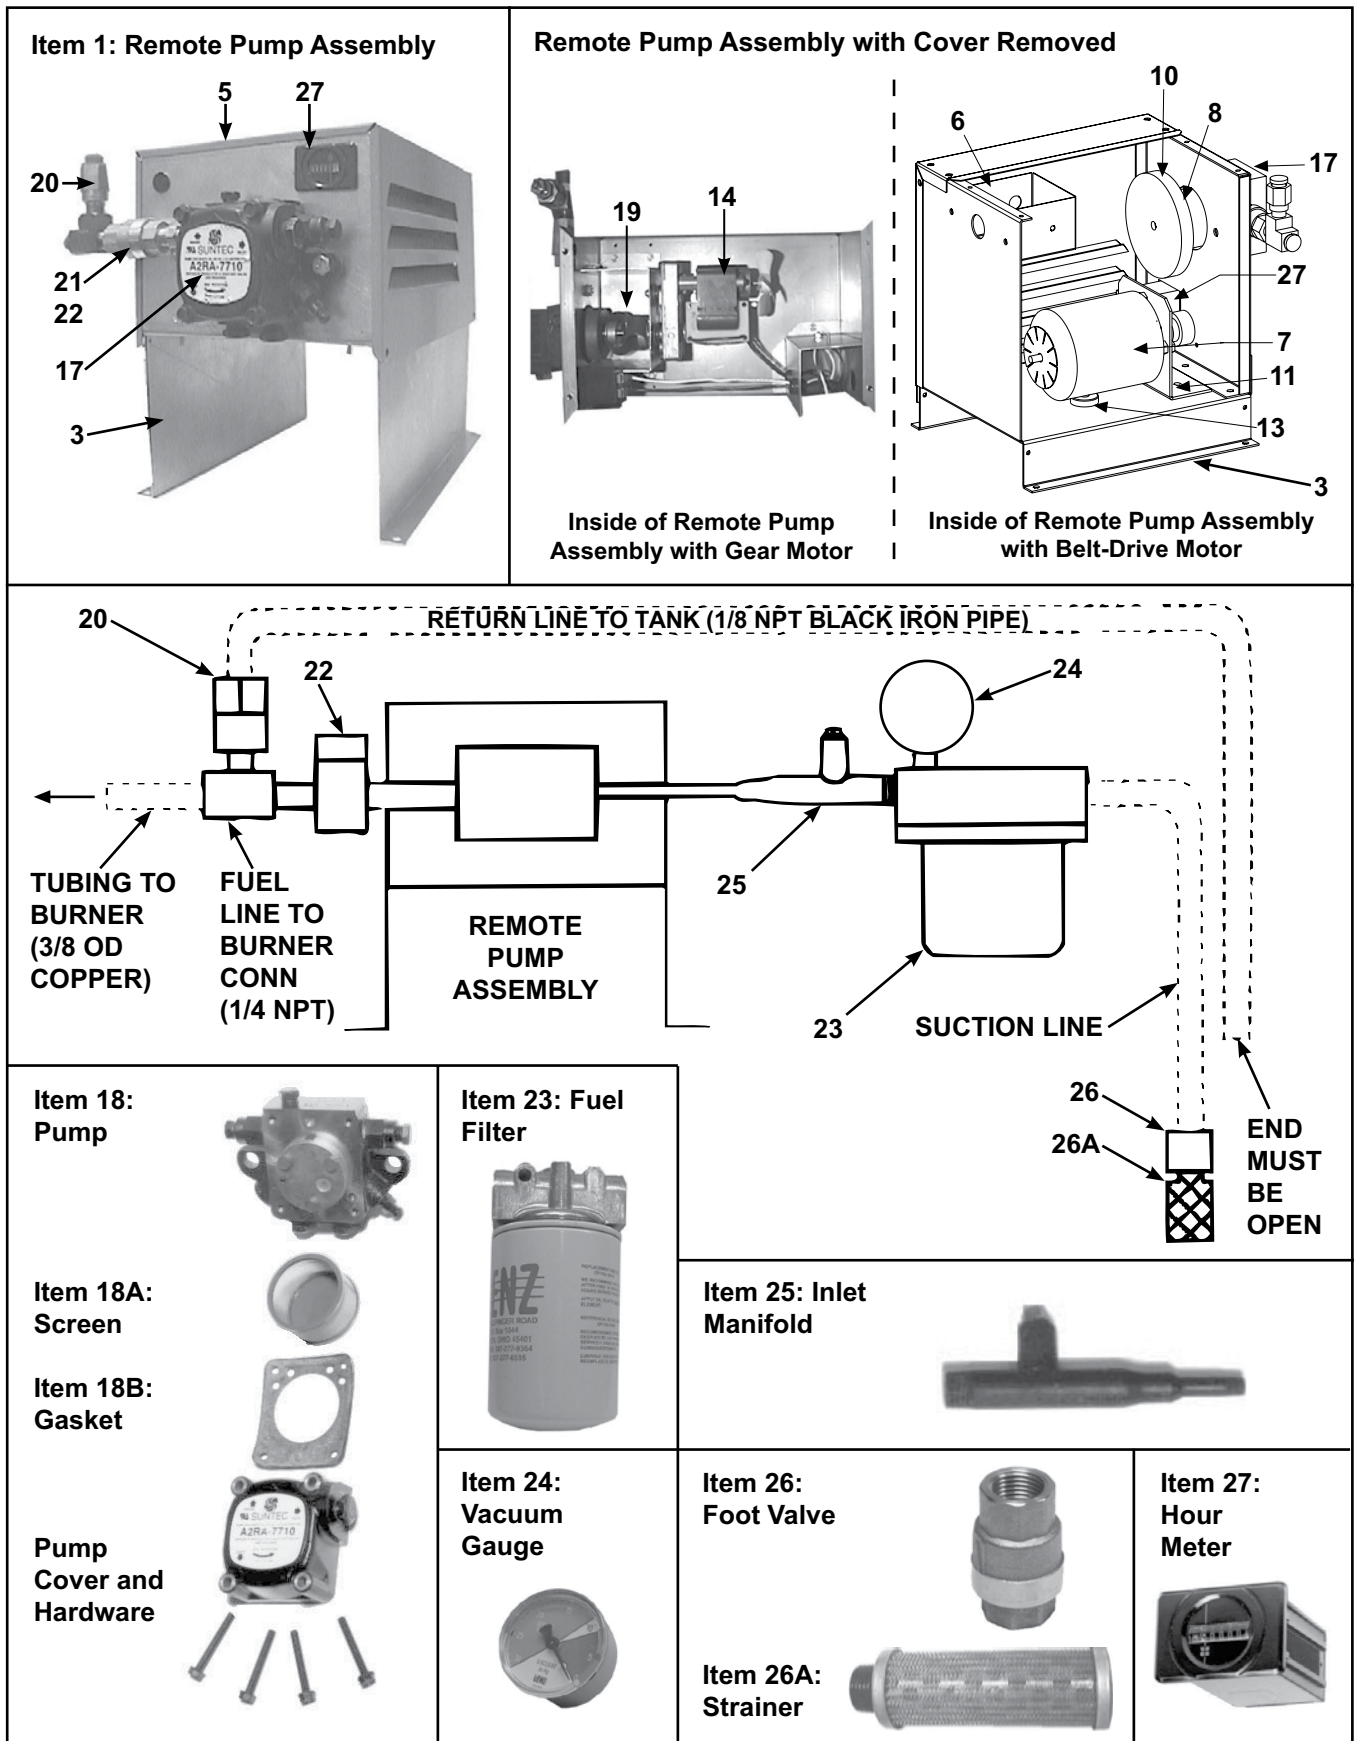

Figure 7. Remote Pump and Suction Line Components (Refer to Table 9)
- Remote pump and suction line components are shown in Figure 7 and listed in Table 9.
- Depending on the unit's date of manufacture, its actual appearance may vary from Figure 7.
- Depending on the unit's date of manufacture, the remote pump is either controlled by a gear motor or by a belt-drive motor. On units manufactured *after* 19 JAN 2005, the gear motor (items 14, 15, and 16) has been replaced by a pulley motor using a replacement kit (item 2).
- The vacuum gauge (item 24) must be installed in an upright position.
- The hour meter (item 27) is located on the main electrical box on units manufactured *before* JAN 1996. On units manufactured *after* DEC 1995, the hour meter is located on the remote pump enclosure.